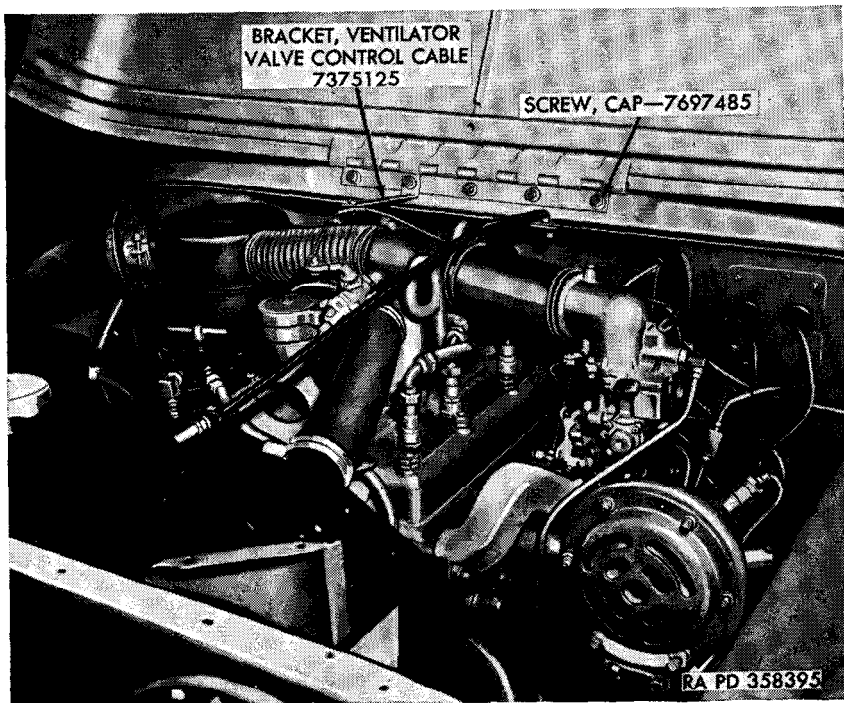

Figure 9. Engine compartment—left-front view.
a. Remove Hood and Windshield. Remove the cap screws (fig. 9), flat washers, and lock washers securing the hood to cowl and remove